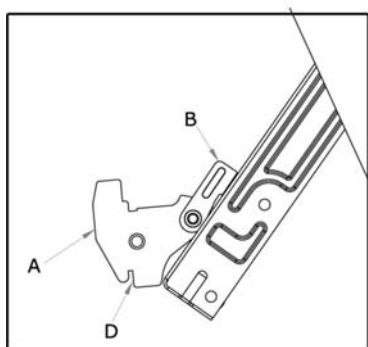

Fig.11-1
- Open the door completely and lift the 2 levers “B” (fig.11-1);